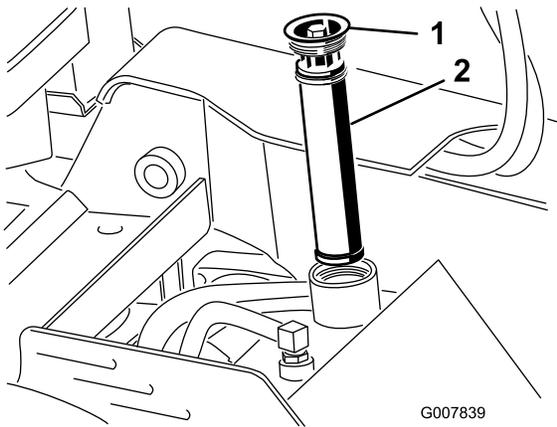

Figure 58
5. Remove and discard the old filter (Figure 58).
6. Install the replacement hydraulic filter and filler cap (Figure 58) and torque bolt on top to 13 to 15.5 N-m (110 to 140 in-lb).
6. Remove the hydraulic tank filler cap and filter (Figure 58).
12. Install the hydraulic filter and filler cap (Figure 58) and torque bolt on top to 13 to 15.5 N-m (110 to 140 in-lb).